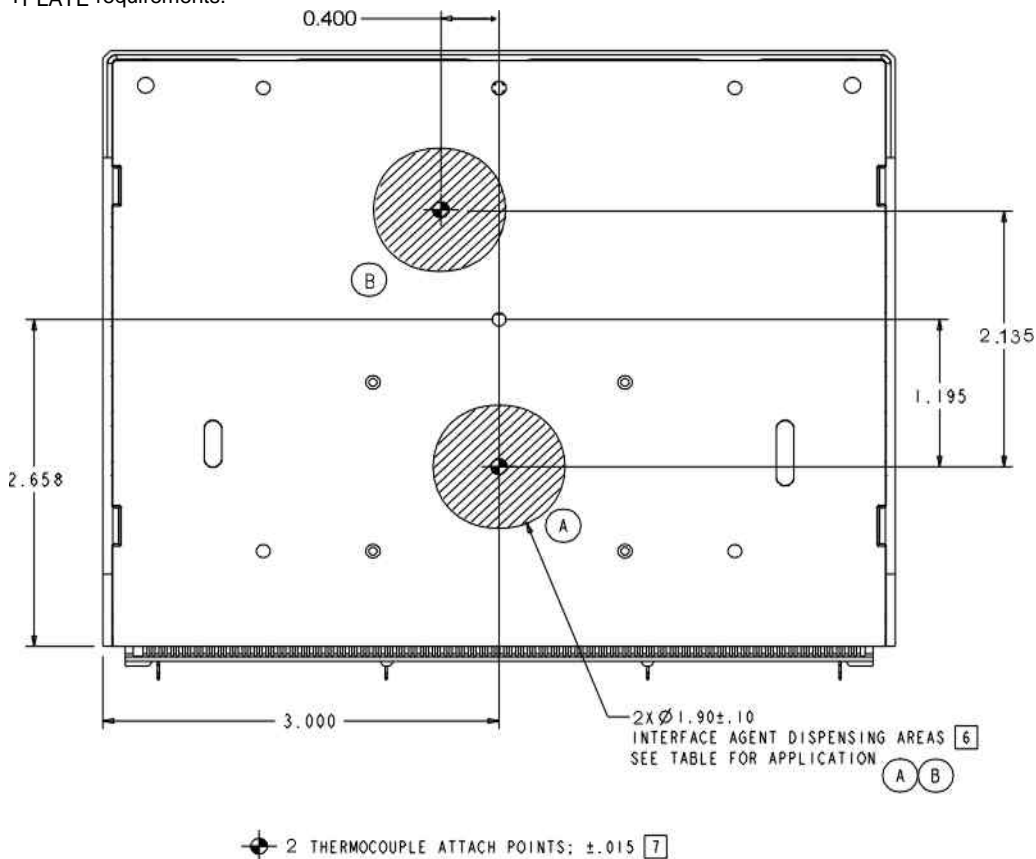

Figure 19. Interface Agent Dispensing Areas and Thermal Plate Temperature Measurement Points
Figure 19 shows suggested interface agent dispensing areas when using either Intel suggested interface agent. Actual user area and interface agent selections will be determined by system issues in meeting the TPLATE requirements.
- Attach each thermocouple bead or junction to the top surface of the thermal plate at the locations specified in Figure 19 using high thermal conductivity cements.